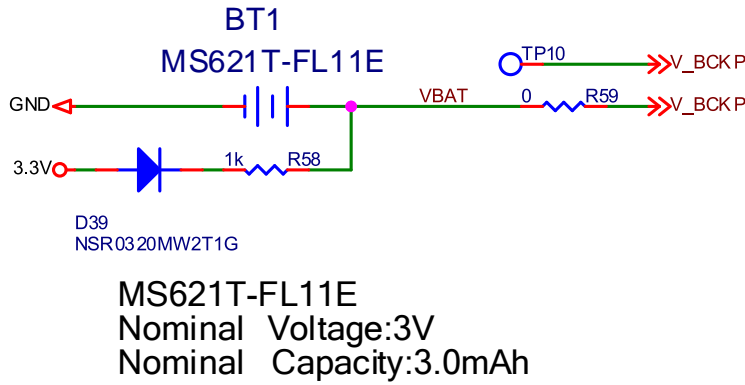

Figure 3-5 Backup Power Circuit
- When the backup battery supplies power to V\_BCKP, the battery charging circuit should be designed to prevent reverse current to ensure that the battery only supplies power to V\_BCKP and the current does not flow back into the 3.3 V power domain, as the D39 shows in Figure 3-5.
- According to the maximum charging current of the battery, a current-limiting resistor should be added, as the R58 shows in Figure 3-5.